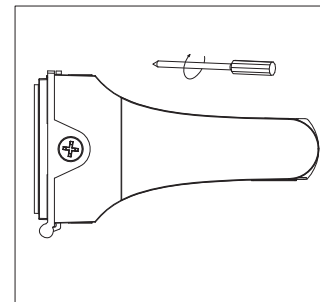
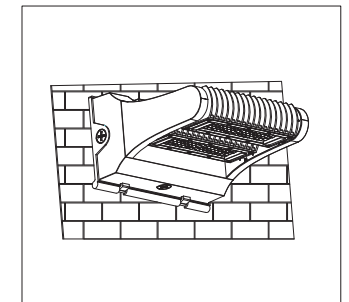

Figure 10
Figure 11
Step 7: Well organize the line and tighten the screws of the lamp base ((Figure 10 & Figure 11) .